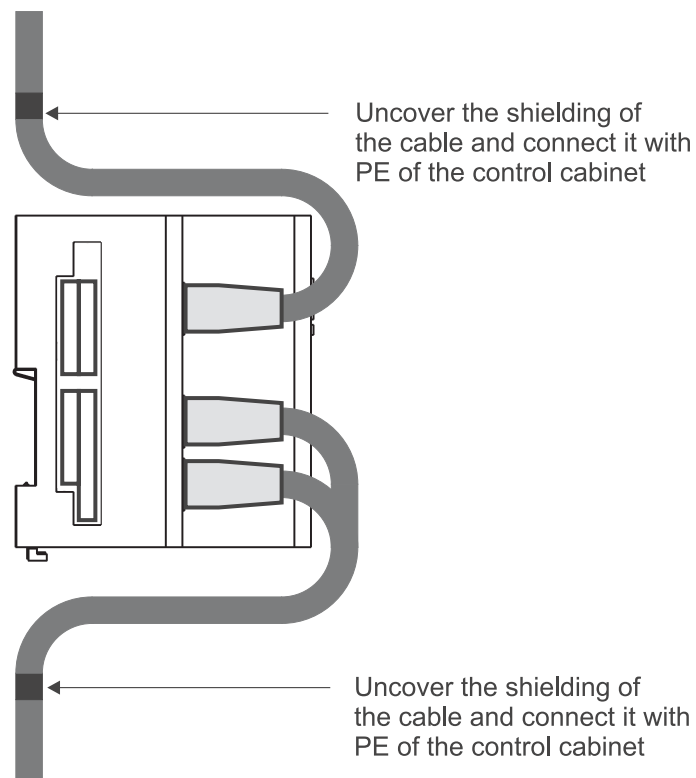

Figure 17: Cable routing
- Lay the connecting lines as stipulated in ▶Figure17. First the shielding of the cable must be uncovered. The length of the uncovered shielding should correspond to the width of the cable clamp. The cable is fastened with the clamp so that the shielding and the PE of the control cabinet are connected electrically.